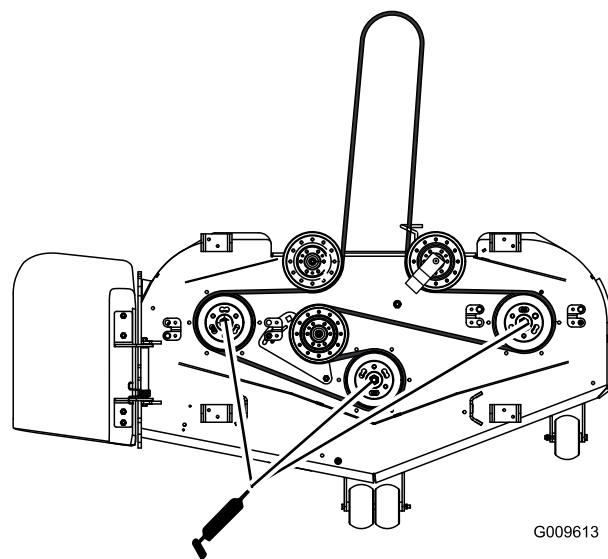

Figure 28
3. Grease the fittings on the 3 spindle bearings (Figure 28).
4. Grease the idler pulley pivot (Figure 28).